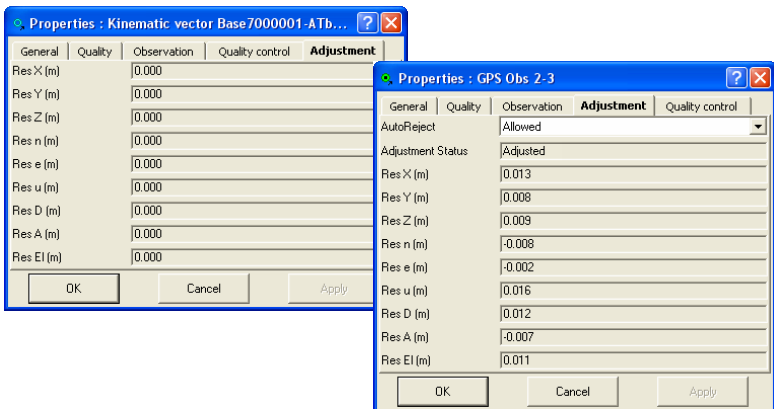

Figure 5-94. Adjustment Properties
5. View or edit *Adjustment* tab fields, which differ depending on the type of observation selected: for static observations, set the AutoReject option and view the status and residuals for the observation; for kinematic observations, only residuals information displays. Select the *AutoReject* parameter as needed (Figure 5-94).